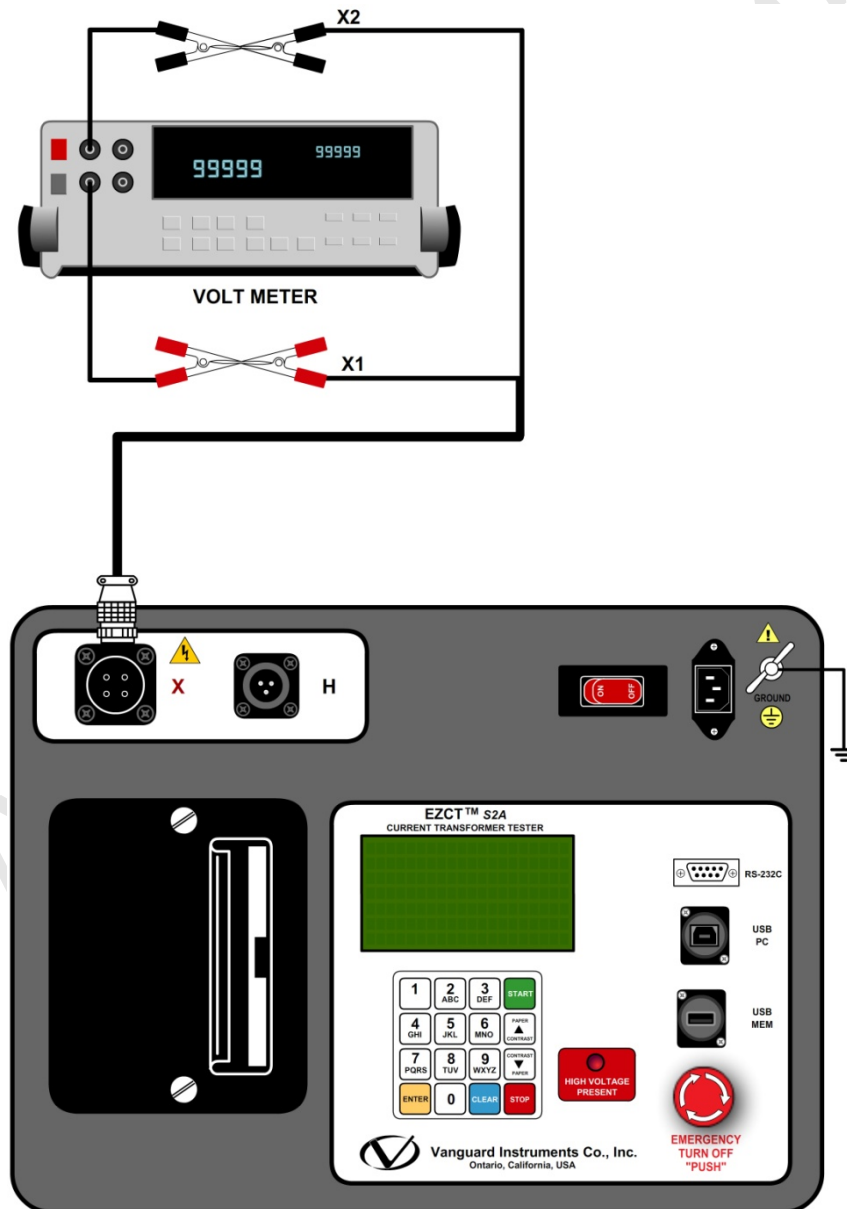

Figure 15. EZCT S2A  $V_x$  Verification Test Connections
- Connect the X cables to an RMS volt meter as shown in Figure 15.